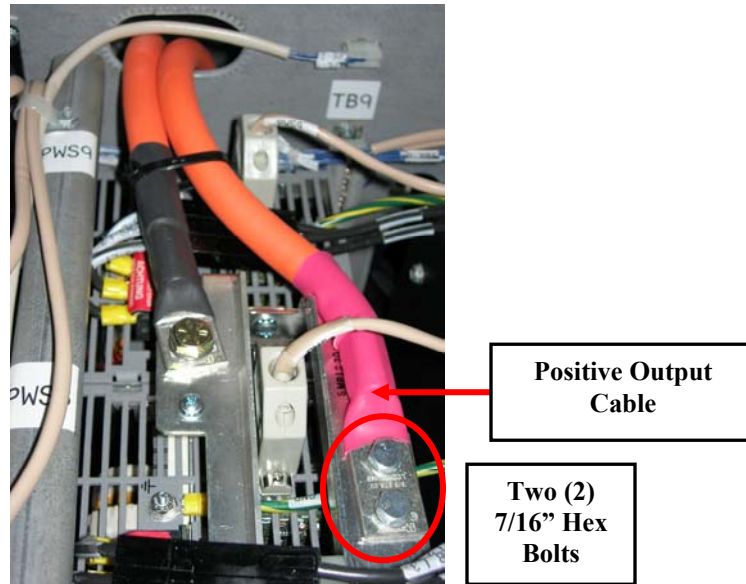
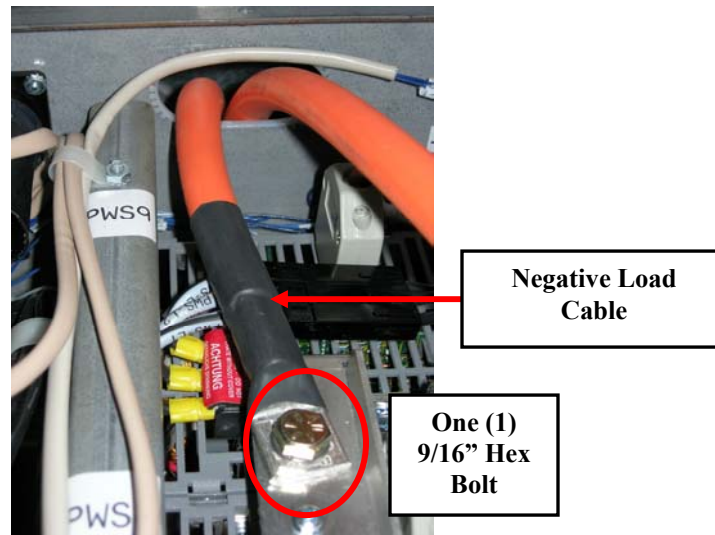

Figure 26 Positive Output Cable Location
Figure 27 Negative Output Cable Location
DO NOT HIT THE CELL STACK POSITIVE TERMINALS OR PULL THE CELL STACK BOOT BACK. CELL STACKS MAINTAIN A CAPACITIVE CHARGE. CELL STACKS CAN BE DISSIPATED OF ALL ELECTRICAL CHARGE THROUGH THE USE OF A STACK DISSIPATION BAR. (Refer to Figure 26 and Figure 27.)
8. Disconnect the positive lead cable from the power supply module's right side bus bar by removing the two (2) 7/16" hex bolts. (Refer to Figure 26.)
9. Disconnect the negative output cable from the power supply module's left side bus bar by removing the one (1) 9/16" hex bolt. (Refer to Figure 27.)